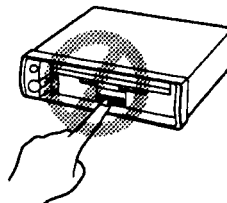
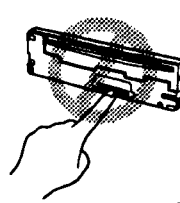

Fig. 8
Fig. 9
- Do not touch the contacts on the front panel or on the unit body, since this may result in poor electrical contact. If dirt or other foreign substances get on the contacts, wipe them with a clean, dry cloth. (Fig. 8) (Fig. 9)